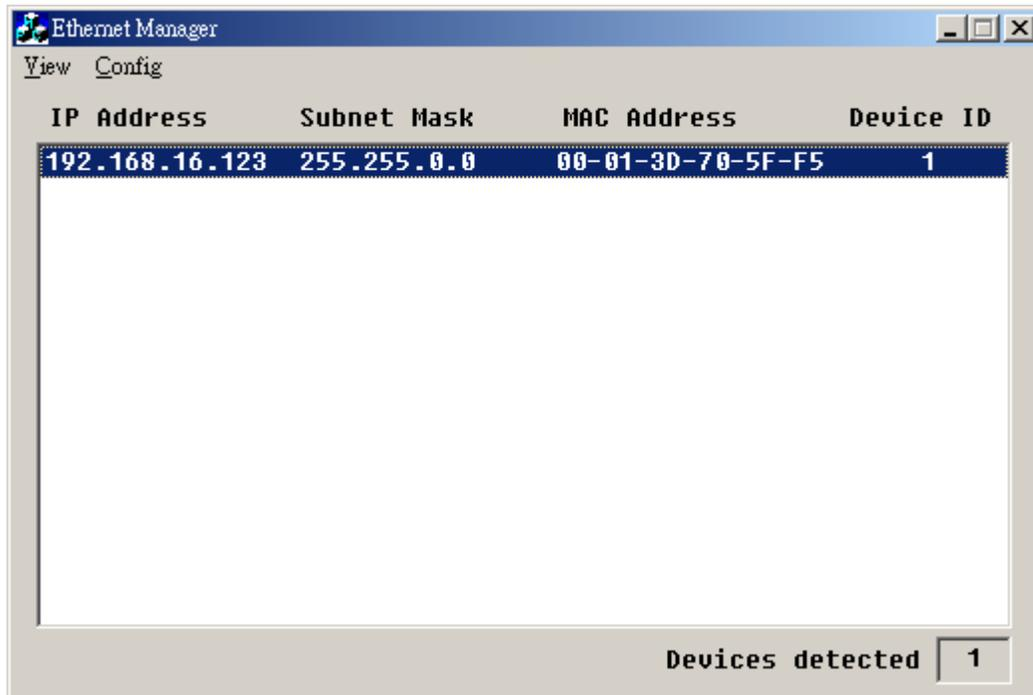

FIG D2-1
2. Run the ETM.EXE which follows the path of the LAN on the CDROM drive, it will show as fig D2-1 if not, please press F5 to search again, or check the first step was succeed or not.